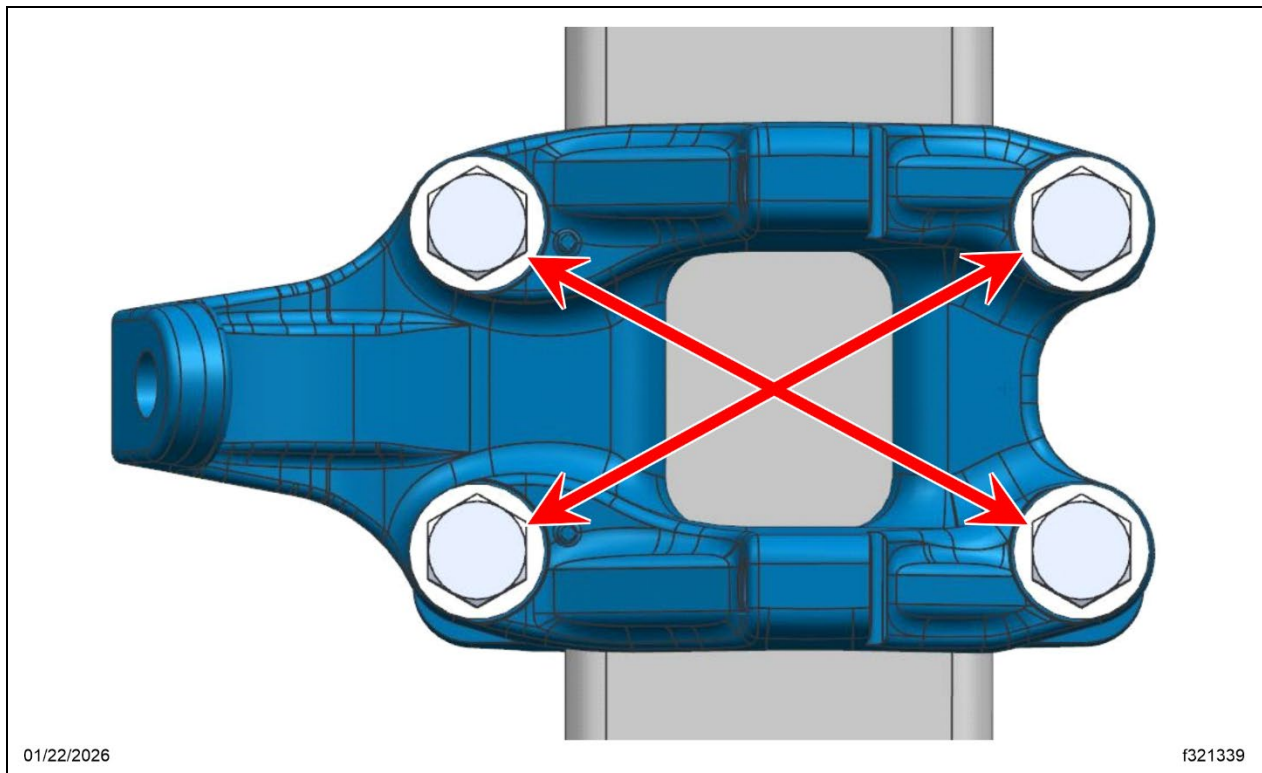

Fig. 5, Tightening the Bolts in a Criss-Cross Pattern
18. If no damage is found and the gap is within specifications, use the torque values listed below to tighten the bolts again, if necessary. Ensure to tighten the bolts in a criss-cross pattern, as shown in **Fig. 5**.